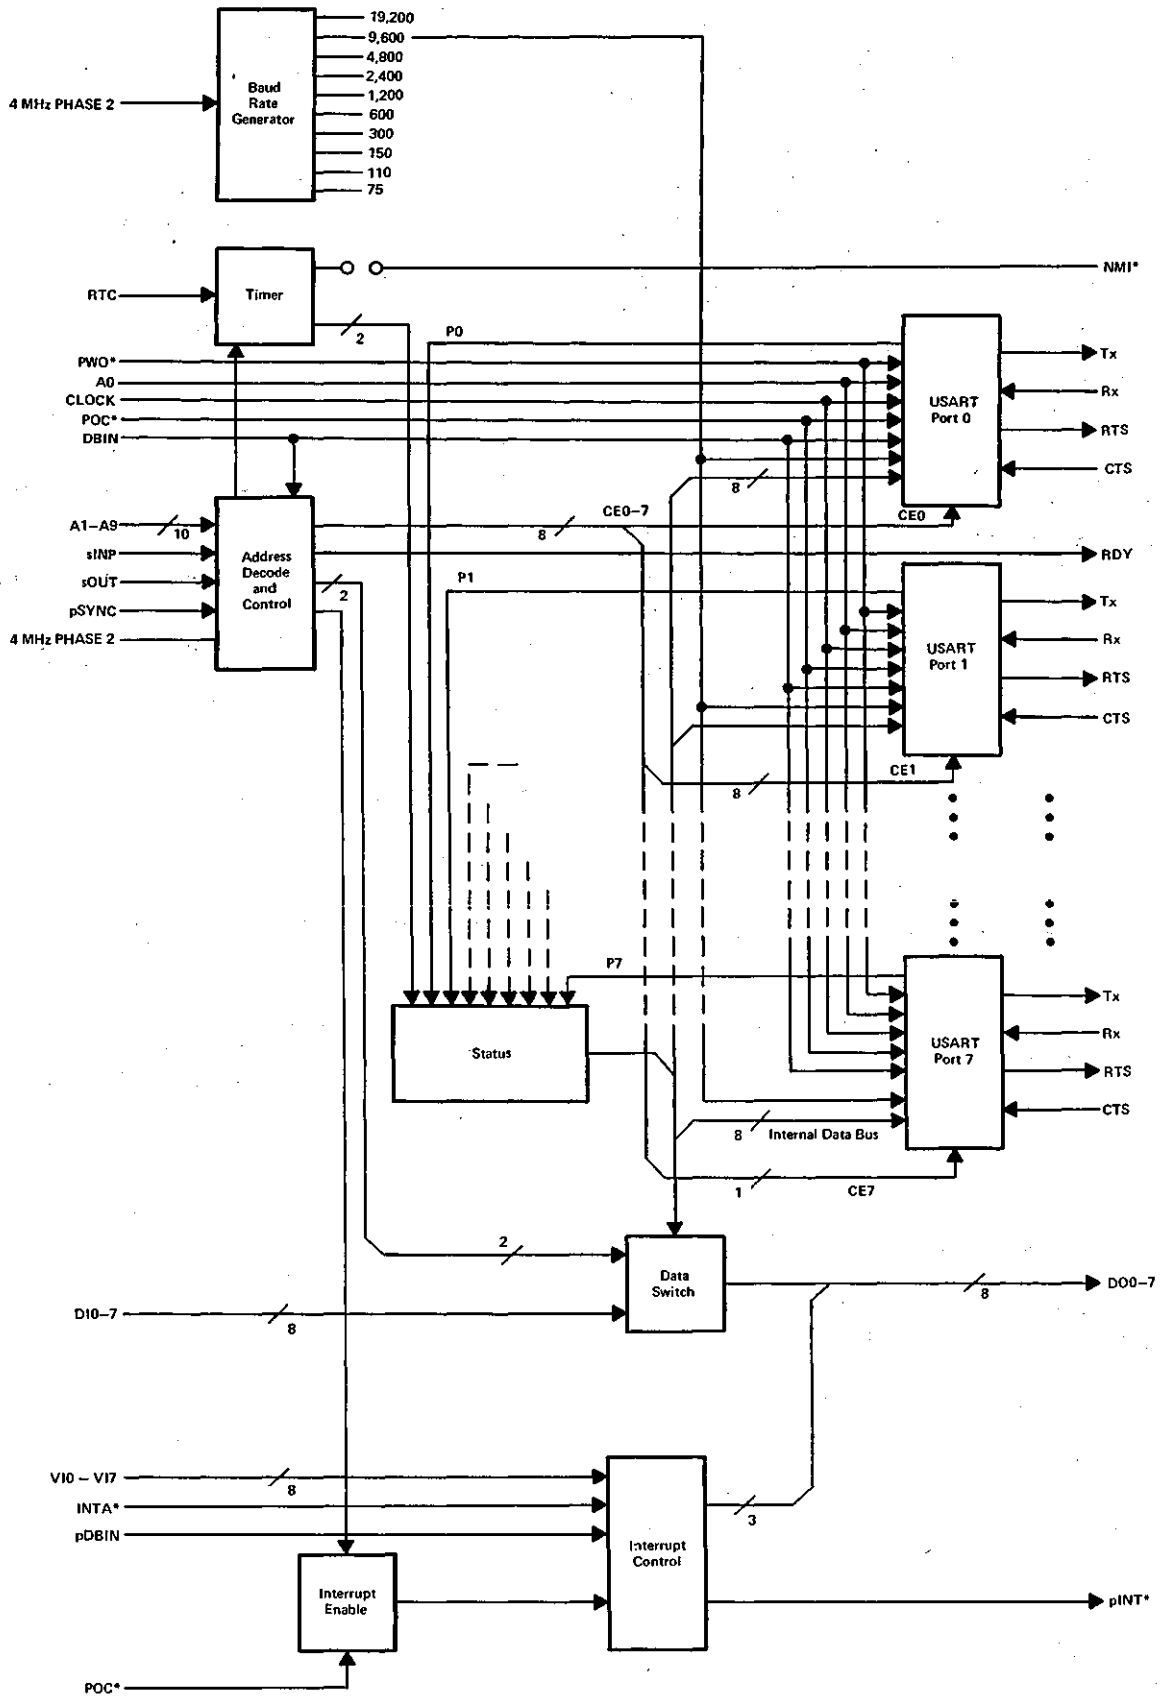

Figure 3-1 — Octoport Functional Block Diagram
3.03 Figure 3-1 illustrates Octaport 801956 in block diagram and should be used in conjunction with the Octaport Logic Diagram in Part 7 for the description which follows. Table 3-1 tabulates the S-100 Bus signals used by the Octaport.